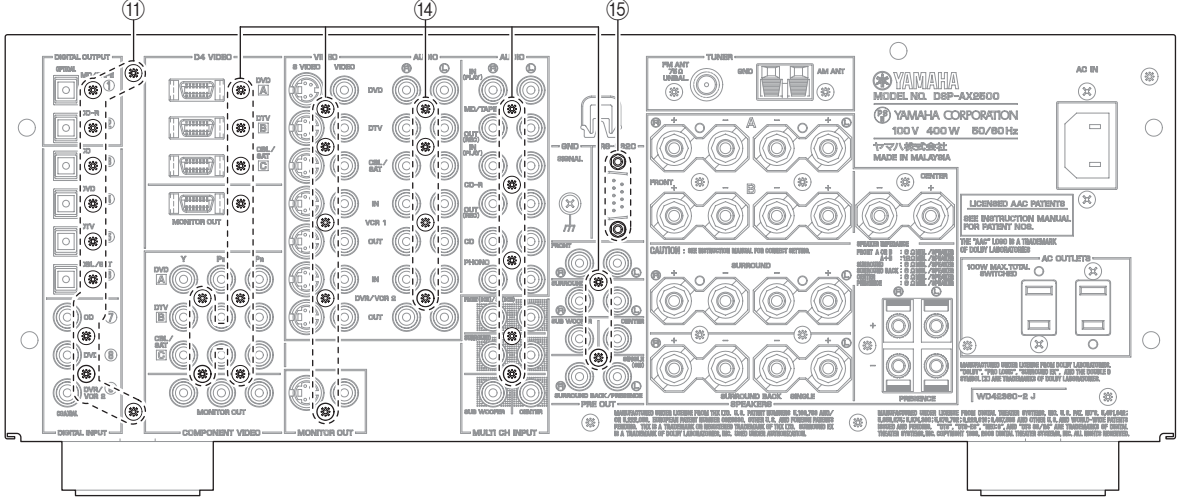

Fig. 4
- Remove 10 screws (⑪). (Fig. 4)
- ⑪のネジ10本を外します。(Fig. 4)
6. Removal of CONTROL, FUNCTION (1), (2), (4) ~ (6), INPUT (1), (2) P.C.B.s and Tuner
- a. Remove 23 (U, C, A, B, G models) / 22 (R, T, K, L models) screws (14). (Fig. 4)
- b. Remove 2 jack screws (15). (Fig. 4)
- d. Remove CONTROL, FUNCTION (1), (2), (4) ~ (6), INPUT (1), (2) P.C.B.s and Tuner. (Fig. A)
- a. 14のネジ24本を外します。(Fig. 4)
- b. 15のジャックスクリュー2本を外します。(Fig. 4)